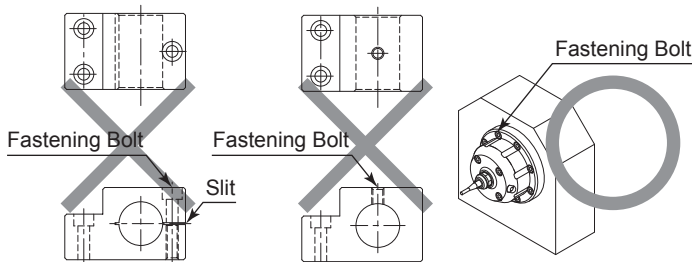

Fig. 4
- (1) Carefully remove the Protective Cover from the Air Bearing Turbine Spindle.
- (2) Insert the 40mm section of the Air Bearing Turbine Spindle housing into the machines holder (Not including / provided by the end-user.).
- (3) Secure the spindle to the countersunk holes (8 locations) on the flange using M3 bolts as shown in Fig.1 and Fig.4.